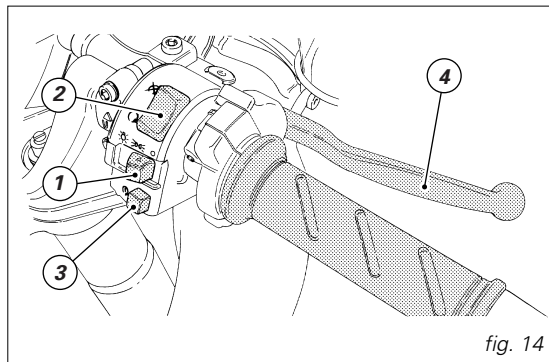
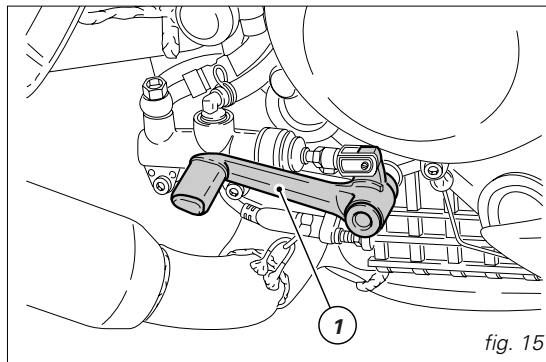

fig. 14
fig. 15
### **Right switch** (fig. 14)
**Throttle twistgrip** (fig. 14)
**Front brake lever** (fig. 14)
*Pull in the lever (4) towards the twistgrip to operate the front brake. The system is hydraulically operated and you just need to pull the lever gently.*
**Rear brake pedal (fig. 15)**